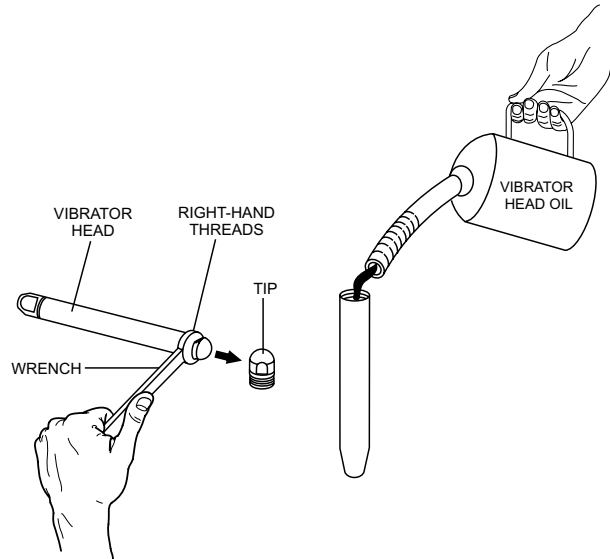

Figure 9. Adding Oil (Vibrator Head)
- Using a wrench, remove vibrator tip (Figure 9) from vibrator head body. Have a cloth handy to catch any spilled oil.